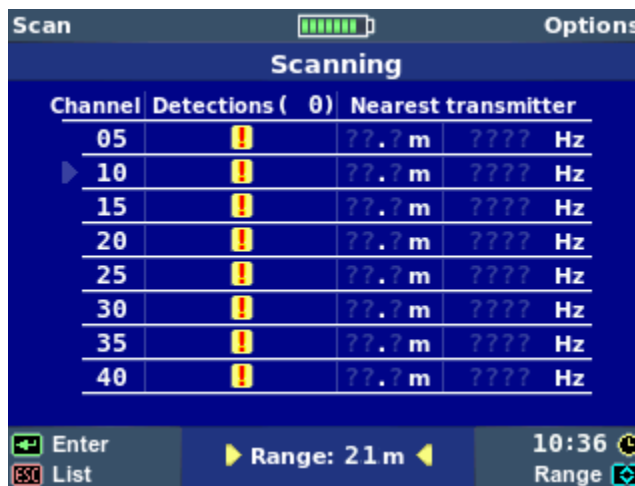

Figure 4.2: „Scanning” working mode: too many transmitters in all channels
- number of detected transmitters in channel (if too many transmitters were detected, exclamation mark is shown figure 4.2),